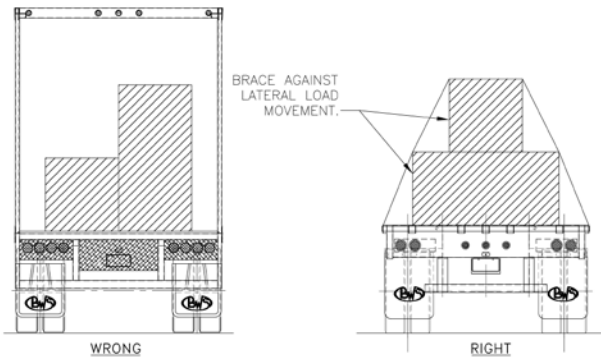

Figure 7
2. Crosswise weights should be equally distributed (figure 7). A heavy load should not be placed on one side. This will overload suspensions and tires on that side. Place load so that weight will be equal on rear tires, eliminating possible twisting of the frame and overloading of axle housings and wheel bearings.